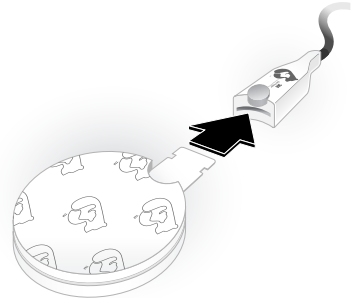

Figure 3-2: Connect the sensor to the sensor cable
3. Connect the sensor to the sensor cable connector. Ensure the sensor tab is properly connected and is fully inserted into the sensor cable (see Figure 3-2). The display on the control unit will change to the ready screen once it confirms the sensor connection.